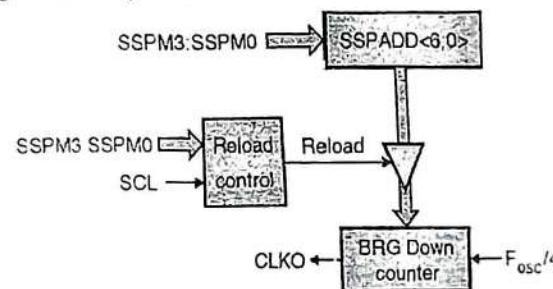

Fig. 9.12.6 : Baud rate generator block diagram
- In I²C Master Mode, the Baud Rate Generator (BRG) reload value is placed in the lower 7 bits of the SSPADD register (Fig. 9.12.6).